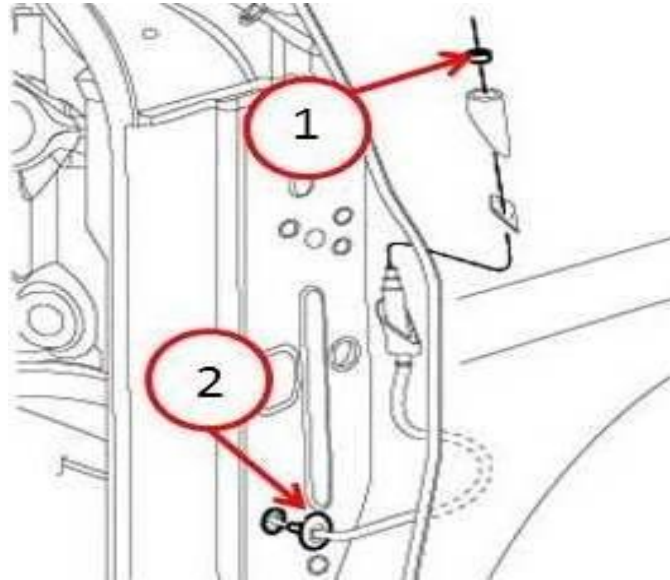

Fig. 7 Antenna Base and Cable Assembly
14. Insert the antenna body through the hole in the fender and install adapter (Fig. 7).